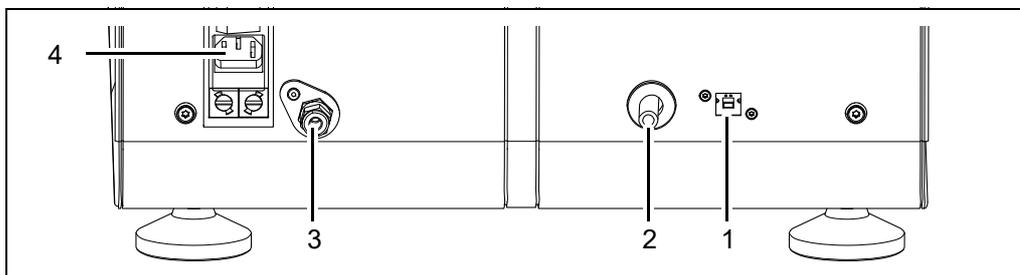

Fig. 5-2 Ports on the instrument
1. Connect the computer to the instrument (1, fig. 5-2) using the supplied USB cable. Do not use a USB cable longer than 2 m. Should the original USB cable be replaced, provide the new cable with a type "Würth 742 727 33" ferrite.
3. Insert the exhaust hose (2) into the washing bottle (please refer to chapter 9.7, page 47 for information on filling and connecting them correctly).
4. Connect the power cable to the instrument (4).